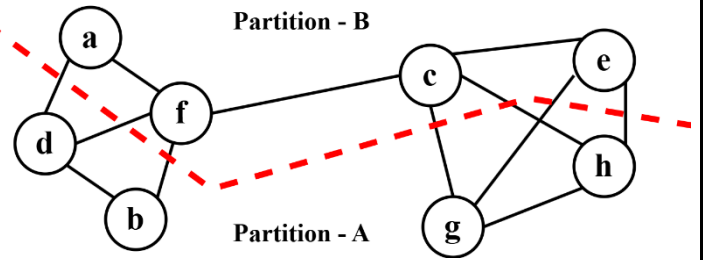

Figure 1
1. (CO4) An initial cut for a partition of 8 circuit elements (a, b, c, d, e, f, g, and h) is given in **Figure 1**.